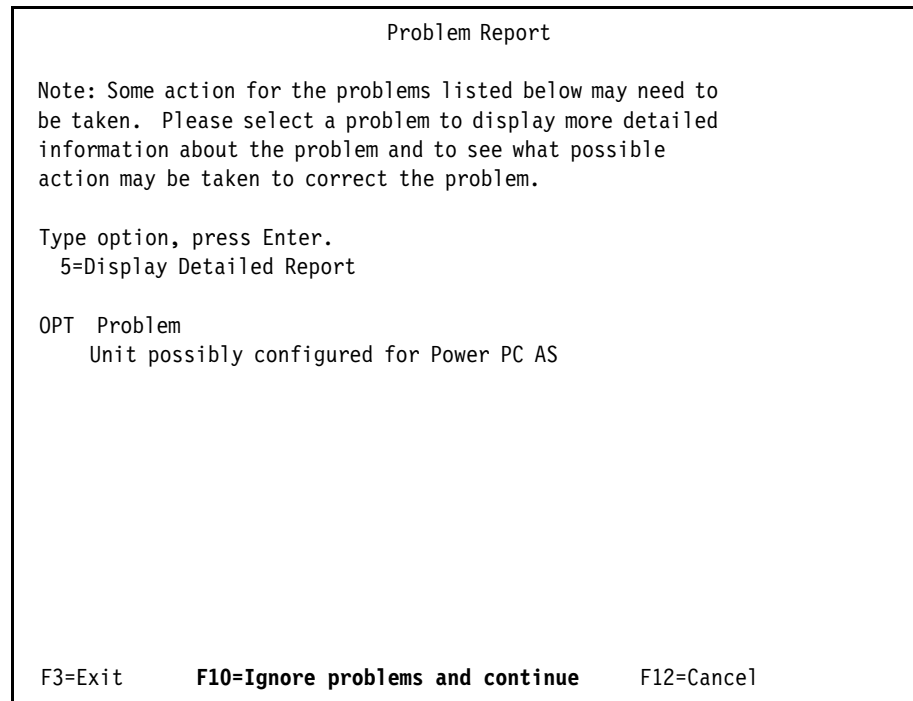

Figure 16-46 IBM i SST Problem Report Unit possibly configured for Power PC AS
5. We confirm the warning message that the disk unit might possibly be configured for another operating system by pressing **F10=Ignore problems and continue** as shown in Figure 16-46.